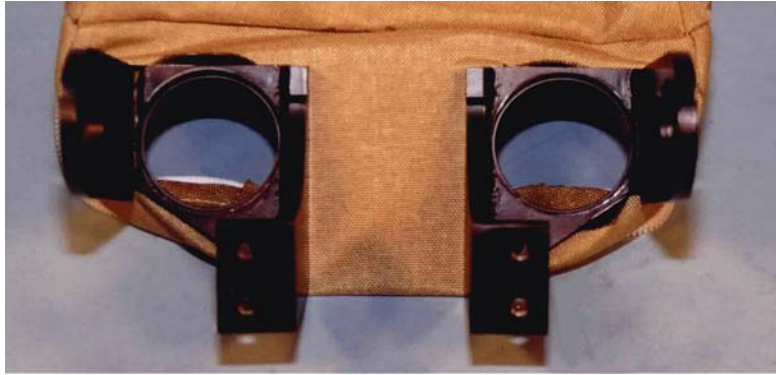

Figure 10.5- Right and Left Attachment Brackets installed
3. Repeat Step 2 for the Right Attachment Bracket (T1LAM060). The lower abdomen mounting assembly is shown in **Figure 10.5**.